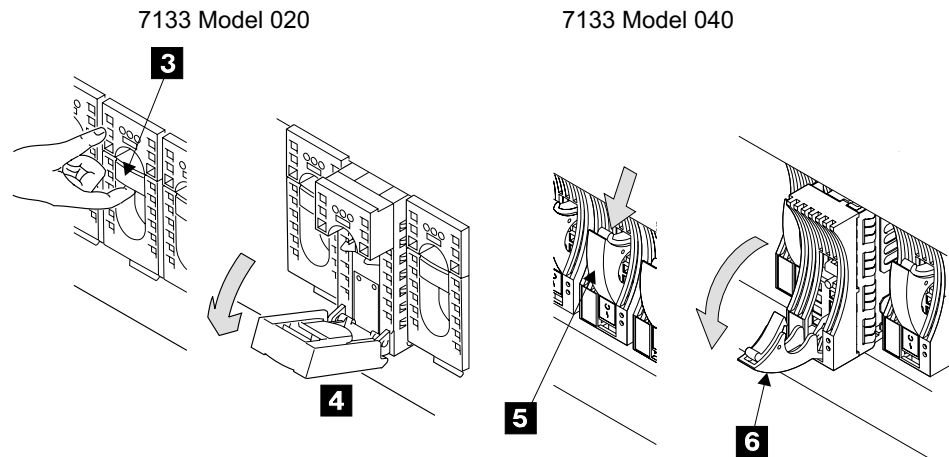

Figure 14. Drive Removal (t009085)
- **No**, go to step Figure 14 on page 41.